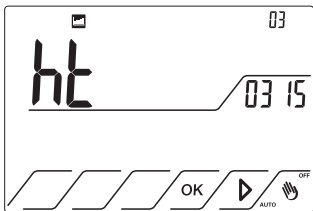

Fig.49
12.5 Press  to move on page 3. Fig.49